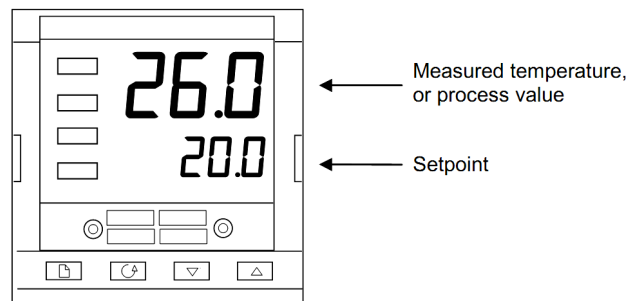

Figure D-2: Home display
- Set the pressure of gaseous product to the GC (Fig. D-2) that has to be about 1 bar.